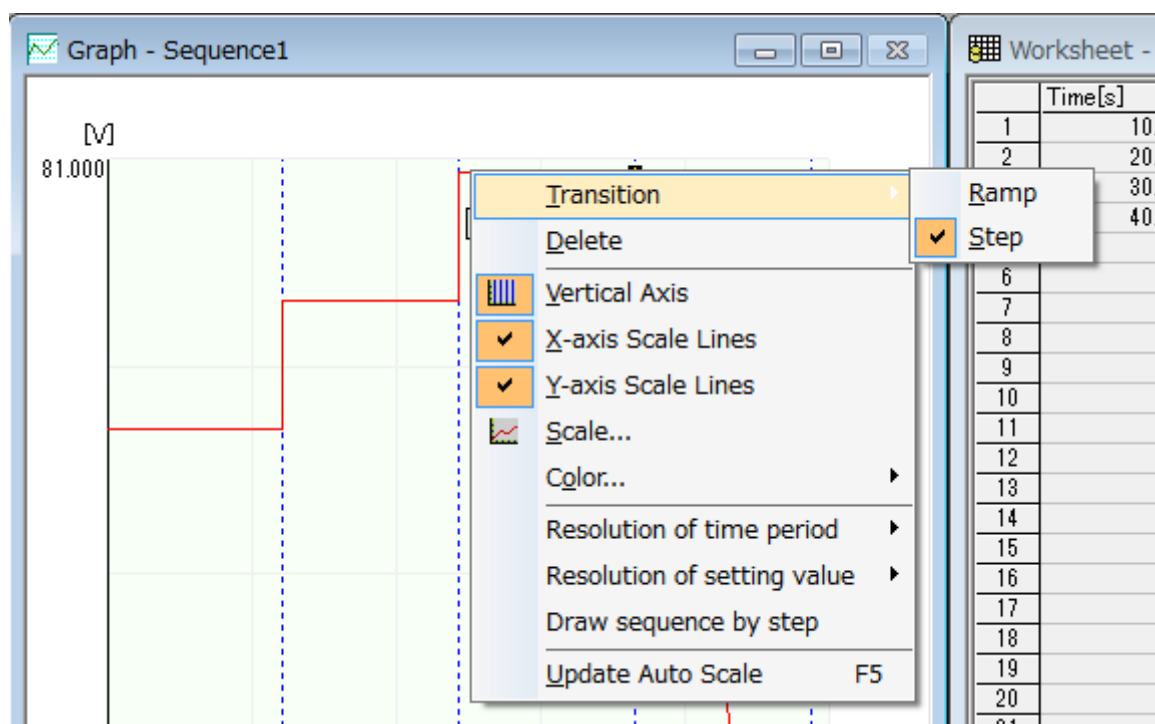

Fig. 7-10 Transition Change
* Transition data can be changed from the graph. Double click on the line you wish to change. This will cause the end of the line to change to a black point (Fig. 7-10). At this stage, press the right mouse button (Fig. 7-10).
* When creating the sequence by a mouse, decimal point can be selected by setting [Resolution of time period] and [Resolution of setting value]. Selecting [Draw sequence by step] allows you to create the sequence transition by step at all times, instead of ramp transition. (Fig. 7-10)